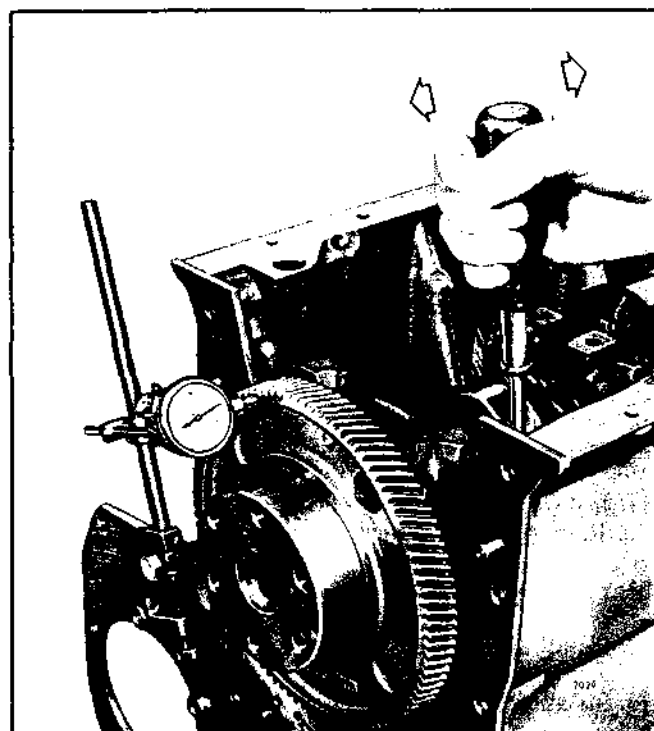

Fig. 11 - Checking Crankshaft End Play
7. Check the crankshaft end play by moving the crankshaft toward the gage (Fig. 11) with a pry bar. Keep a constant pressure on the pry bar and set the dial indicator to zero. Then, remove and insert the pry